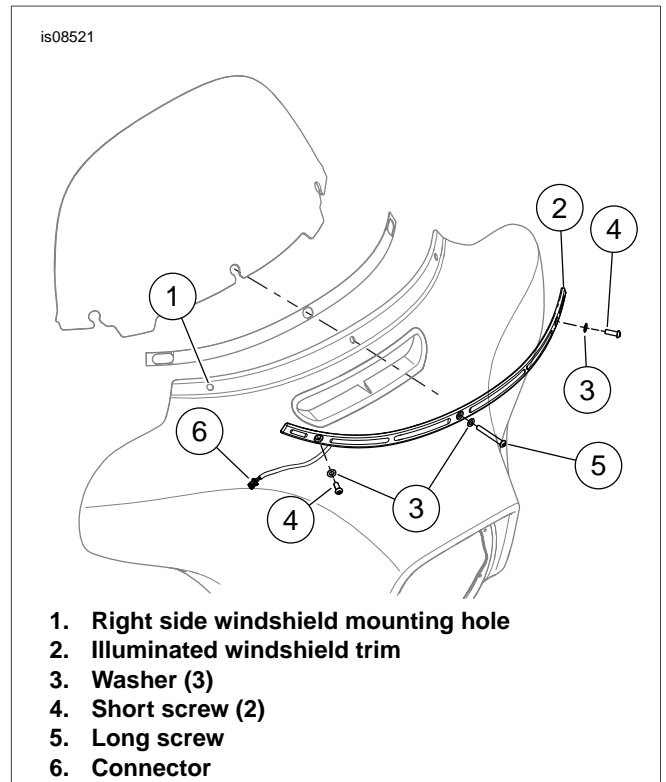
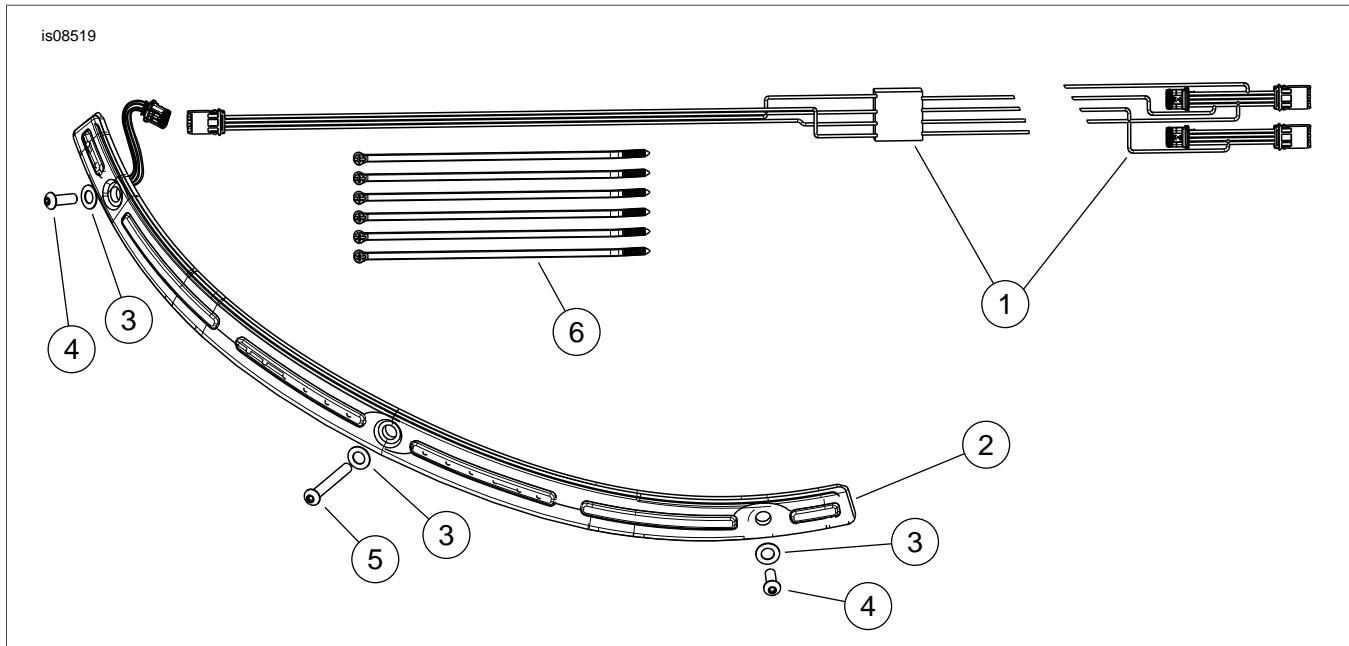

Figure 3. Install Illuminated Windshield Trim
Figure 5. Service Parts: Illuminated Windshield Trim
See Figure 5 and Table 1.
1. See Figure 3. Using a 9/16 inch (14.5 mm) drill bit, enlarge the right side windshield mounting hole. If possible, offset
5. See the service manual, Figure 3 and Figure 5. Install outer fairing. Use the screws (4 and 5) and washers (3) from the kit to secure the illuminated windshield trim while installing the windshield.